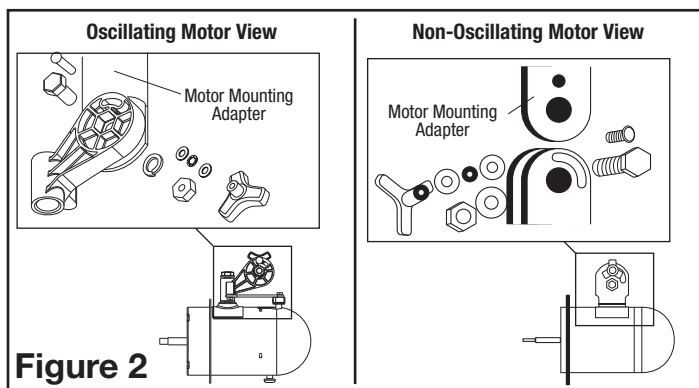

Figure 2
10. **For Oscillating Motor:** Place the flat section on the motor mounting adapter next to the motor neck (Figure 2).
11. **For Non-Oscillating Motor:** Slide the motor neck slot over the motor mounting adapter. Align the 1/2" diameter hole in the adapter with the 1/2" diameter holes in the motor neck slot (Figure 2).
12. Insert the 1/2" x 1" hex bolt (3/4" head) through the motor neck, and the motor mounting adapter. Place 1/2" diameter split lockwasher then the 1/2" diameter hex nut (3/4" head) and tighten fully with 2 adjustable wrenches (Figure 2).
13. From the same side of the motor neck, insert one 1/4-20 x 1-5/8" carriage bolt through the arc-shaped slot in the motor neck and hole in the motor mounting adapter (Figure 2).
14. **To Fasten:** Place one 1/4" flatwasher, one 1/4" internal tooth lockwasher, a second 1/4" flatwasher and then tighten the adjustable knob over the remaining threads (Figure 2).